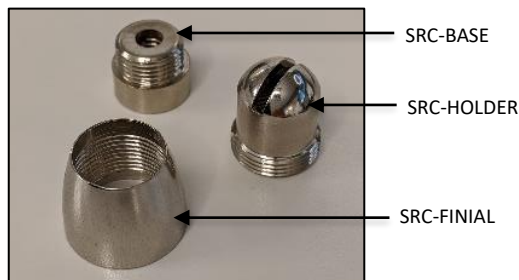

FIG. 12 - SLIP RING COUPLER (1) CONTENTS
9. Remove STRAIN RELIEF placed around the CORD in the CANOPY. Dis-assemble the SLIP RING COUPLER (1) into three components SRC-BASE, SRC-HOLDER and SRC-FINIAL as shown below in FIG.12.